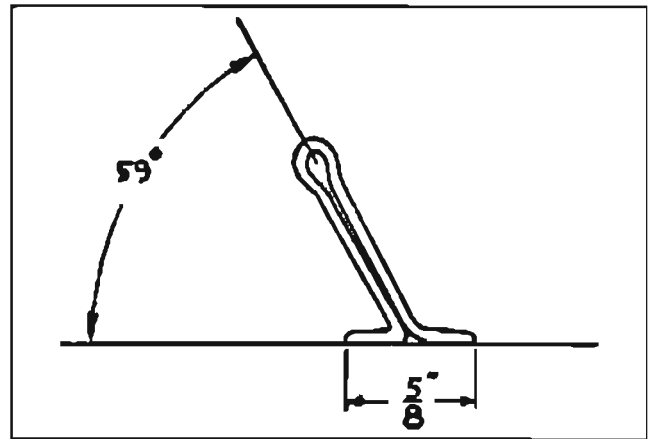

Fig. 6-49 Tool for Removing Upper Half of Main Bearing
1. Make a tool for removing upper half of bearing shell as shown in Fig. 6-49; J-8080 can also be used.